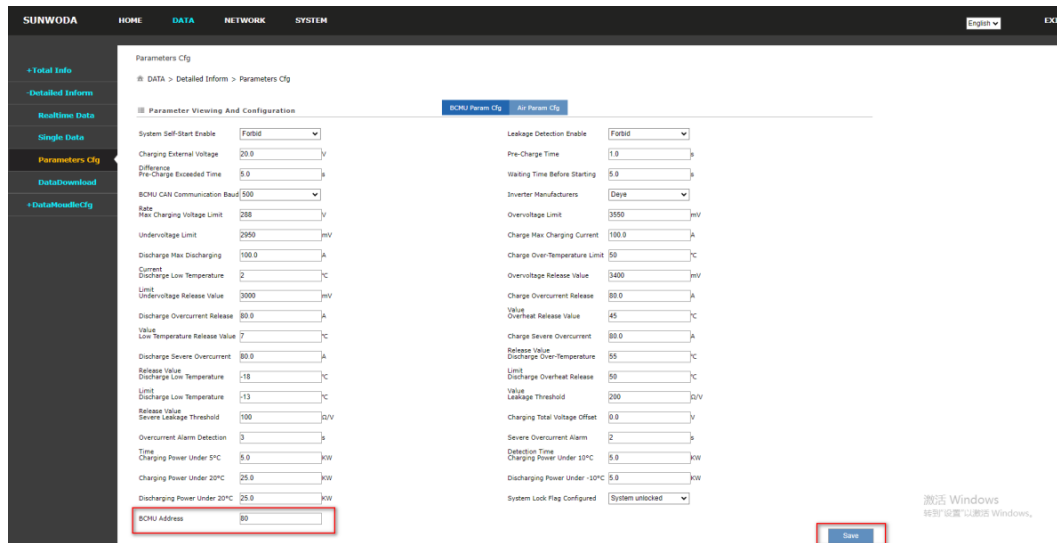

Figure 4.10
(4) Set the battery cabinet address to "80" on the following screen and click Set (Fig.4.10) .